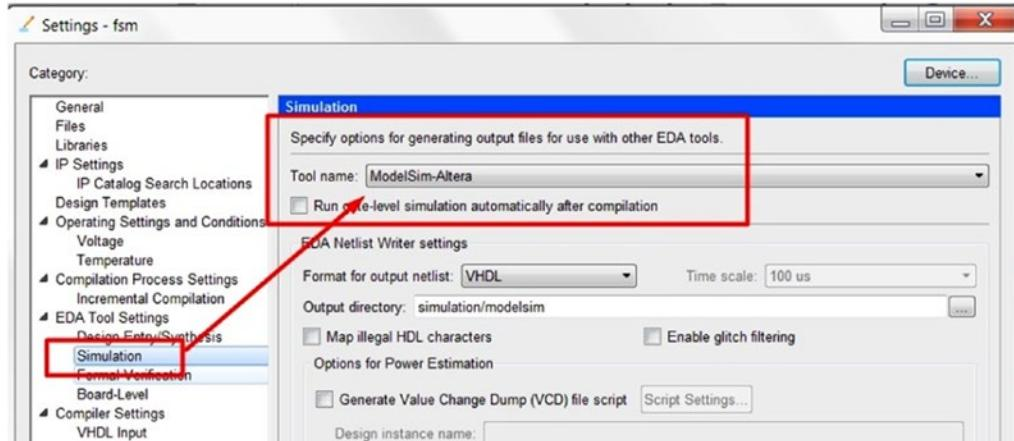

Figure 11-11. Set ModelSim-Altera as simulation tool in Quartus
► **Settings** ► Tool name: ModelSim-Altera (shown in Figure 11-11)